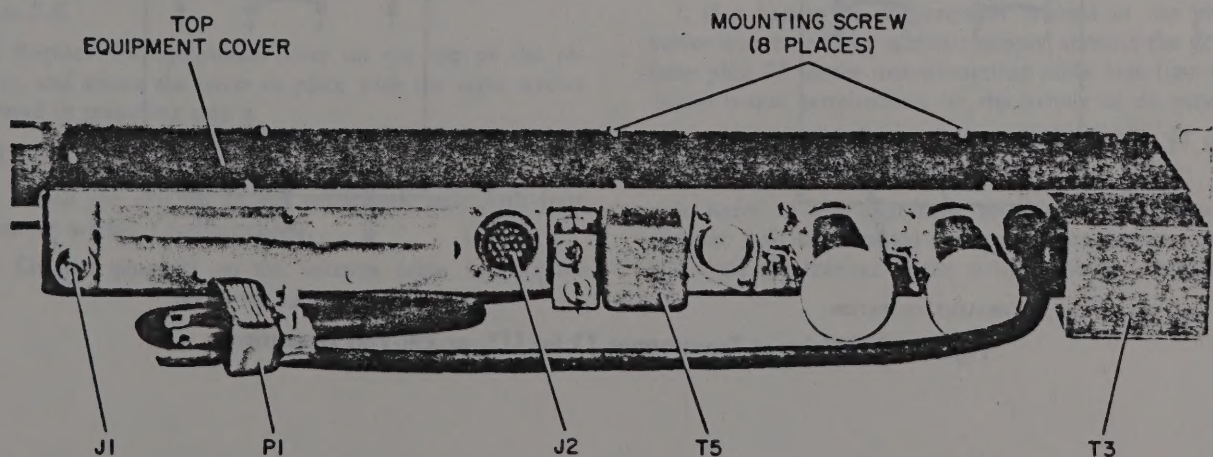

Figure 2-3. Receiver, Rear View, Parts Locations
2-26. PRIMARY AC POWER INPUT CONNECTIONS. Transformer T3 (see figure 2-3) can be wired to permit operation of the receiver from either a 115- or 230-volt ac primary power source. The receiver is shipped from the factory with the transformer wired for 115-volt ac operation. The following procedure contains the information needed to wire the transformer for either 115- or 230-volt operation:
a. Refer to figure 2-3. Remove the eight mounting screws from the equipment cover on the top of the receiver, and remove the cover.
2-27. MAIN AUDIO OUTPUT CONNECTIONS. Transformer T5 (see figure 2-3) can be wired to provide a main audio output impedance of either 600 or 20,000 ohms. The receiver is shipped from the factory with the transformer wired for an output impedance of 600 ohms. The following
a. Refer to figure 2-3. Remove the eight mounting screws from the equipment cover on top of the receiver, and remove the cover.
2-2) to receptacle J1 on the rear of the receiver (see figure 2-3).
c. Connect plug P2 on the interconnecting cable (see figure 2-2) to receptacle J2 on the rear of the receiver (see figure 2-3).
e. If an ac source is used for primary power, insert plug P1 on the ac power cable (see figure 2-3) into the ac outlet.